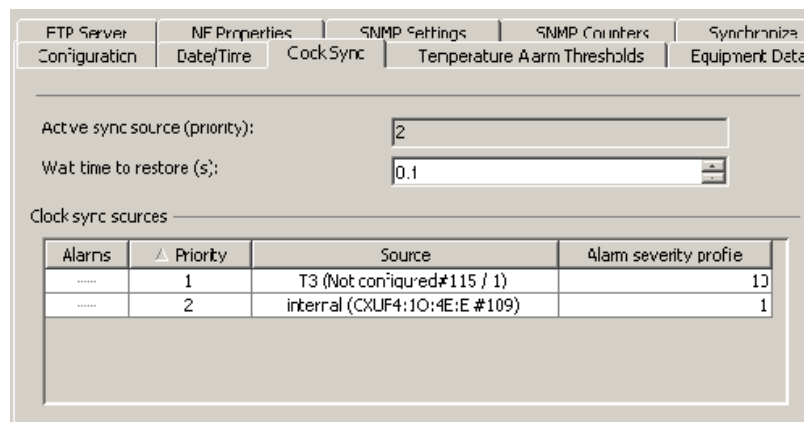
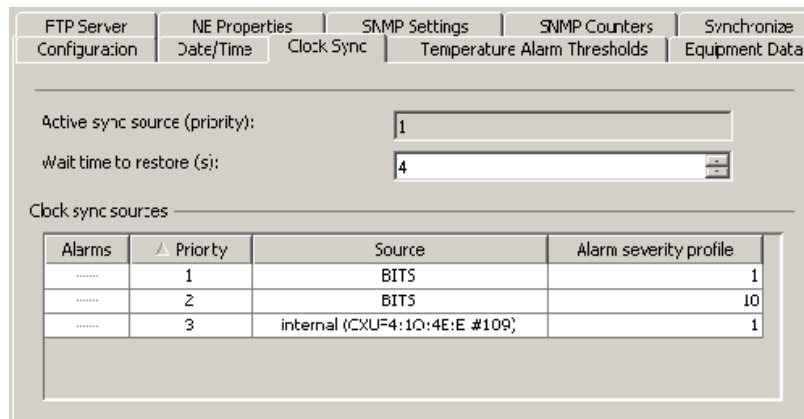

Figure 21 Clock Synchronization (ETSI)
Figure 22 Clock Synchronization (ANSI)
1. Click “NE:hiX5750 ⇨ Clock sync” tab. The dialog page of **ETSI** (or **ANSI**) shelf will be opened as shown in Figure 21 (Figure 22).